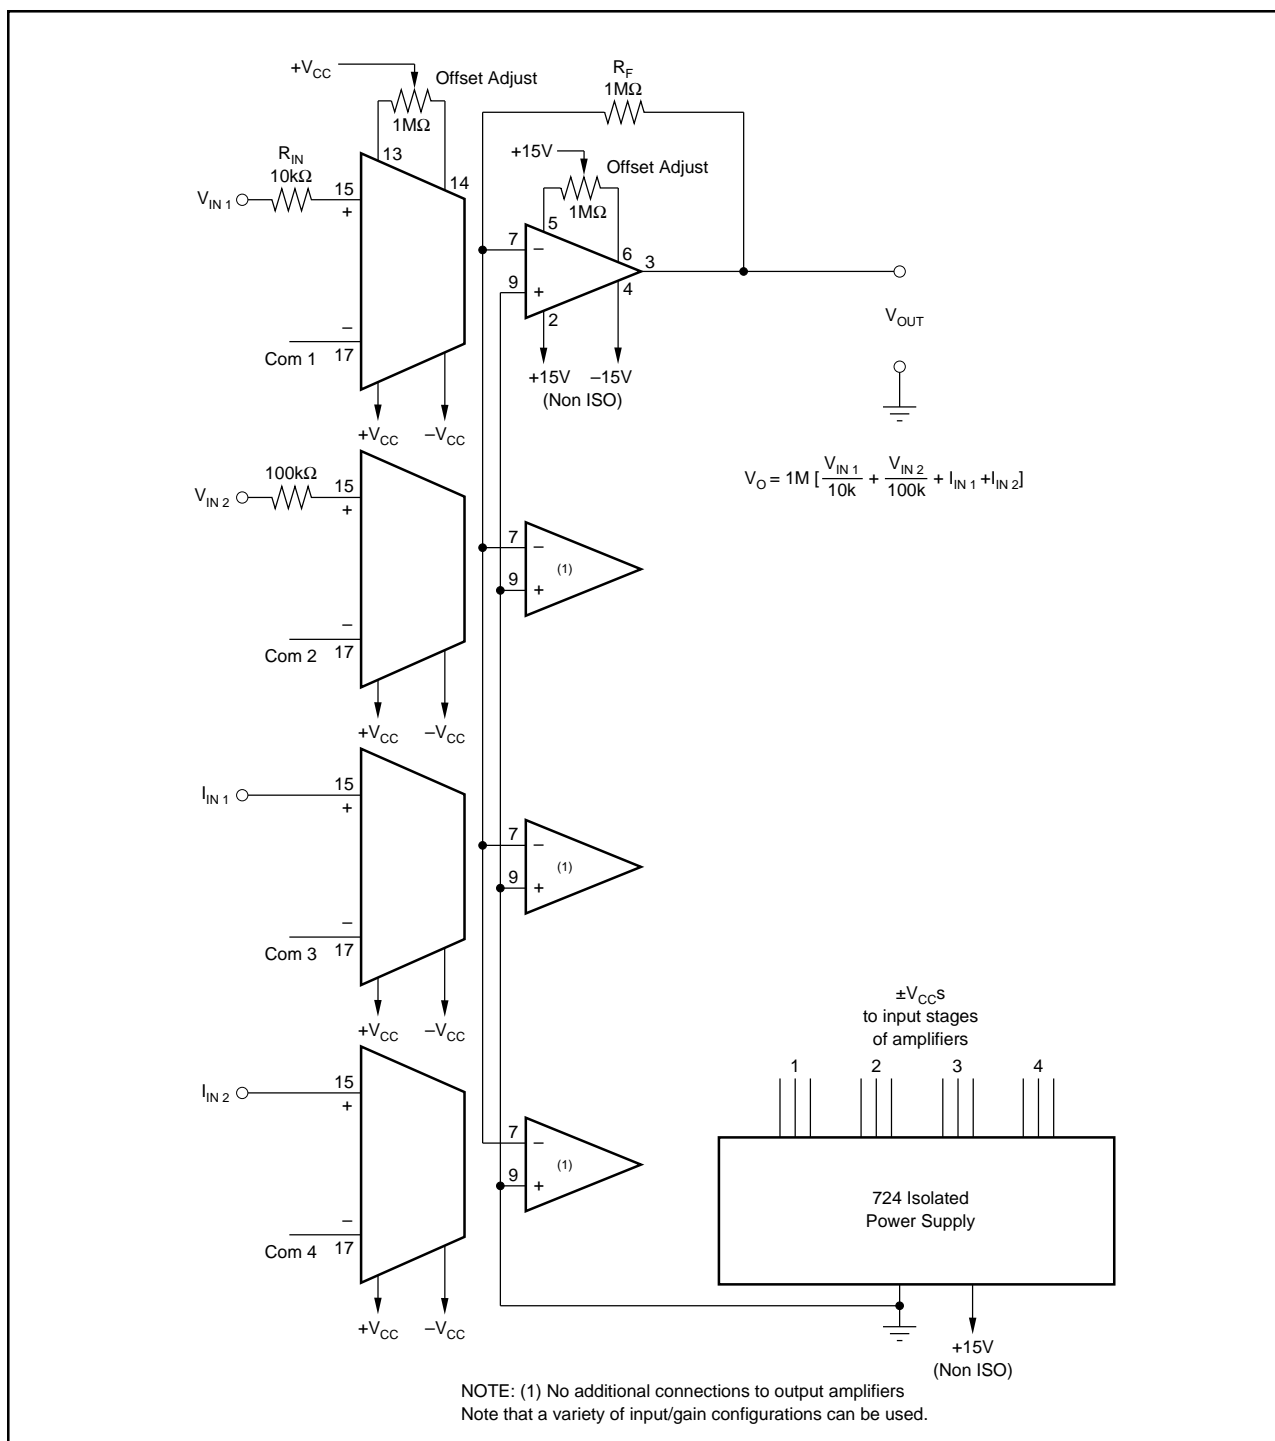

FIGURE 17. Four-Port Isolated Summing Amplifier (Unipolar).
**There are two major sources of offset error:** offset voltage and offset current.  $V_{OSI}$  and  $V_{OSO}$  of the input and output amplifiers can be adjusted independently using external potentiometers. An example is shown in Figure 17. Note that  $V_{OSO}$  (500μV, max) appears directly at the output, but  $V_{OSI}$  appears at the output multiplied by gain ( $R_F/R_{IN}$ ). In general,  $V_{OS}$  is small compared to the effect of  $I_{OS}$  (see Example 1). To adjust for  $I_{OS}$  use a circuit which intentionally unbalances the offset in one direction and then allows for adjustment back to zero.